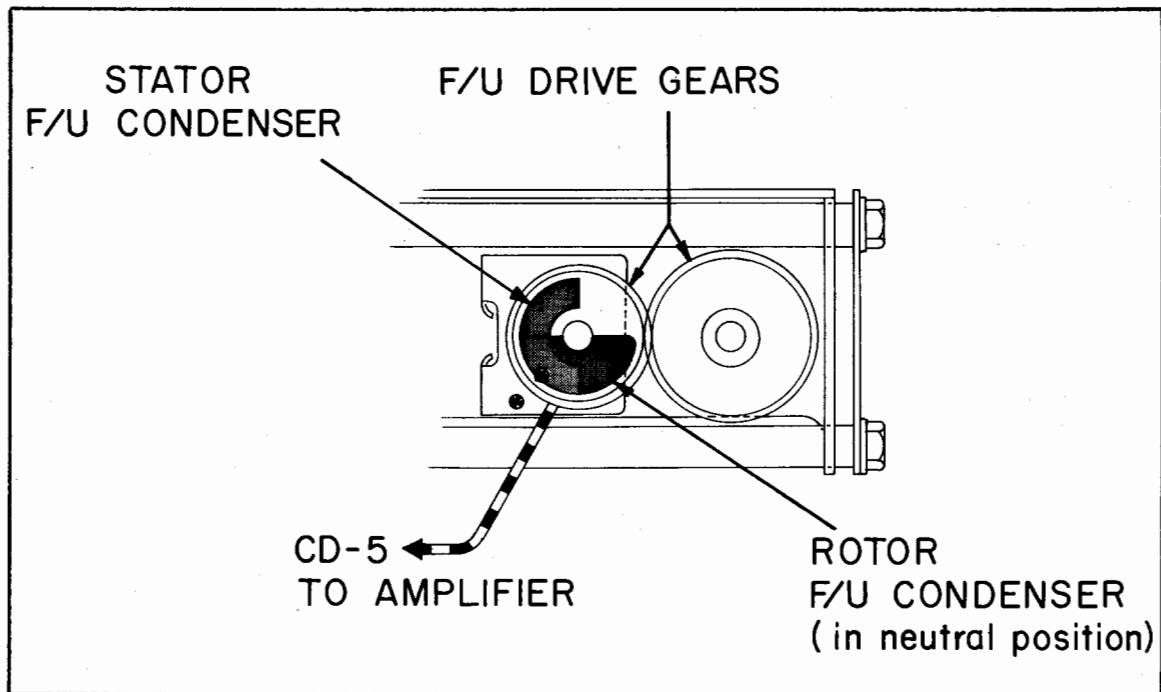

Figure 1-19.
D. PITCH FOLLOW-UP: The pitch follow-up has the same effect on the pitch circuit as in the roll circuit, it moves in a direction opposite that of the other variable condensers and prevents overcontrolling by temporarily cancelling capacitance or inductance changes. (Figure 1-19)